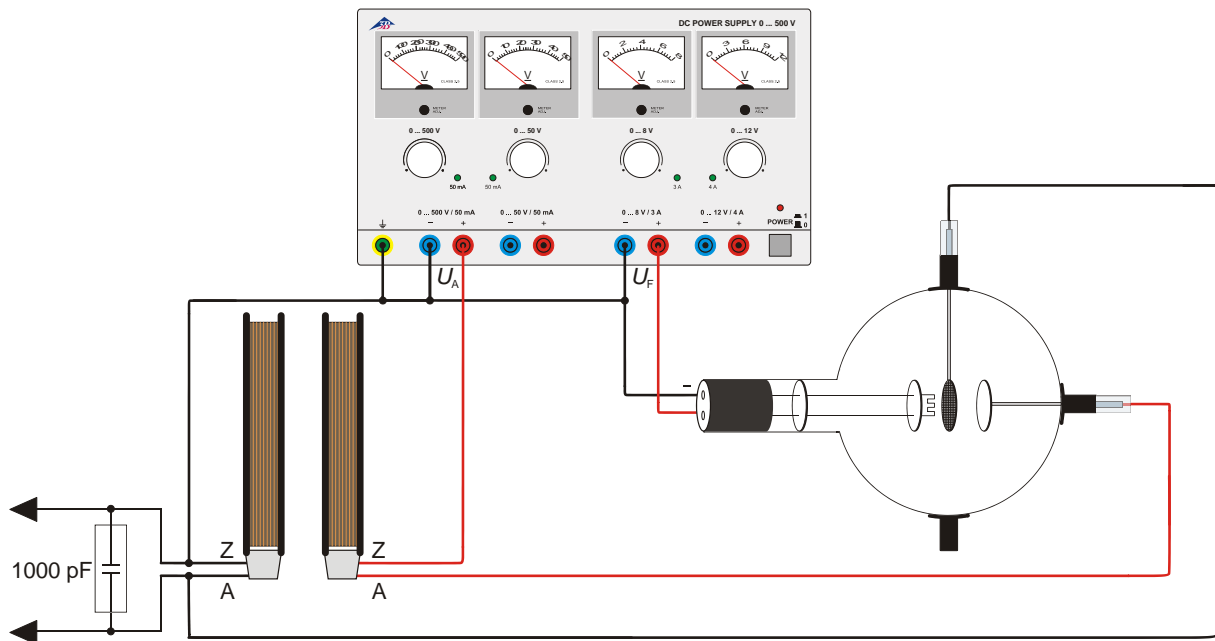

Fig. 5 Generation of undamped LC oscillations
- Set up the circuit as in fig. 5.